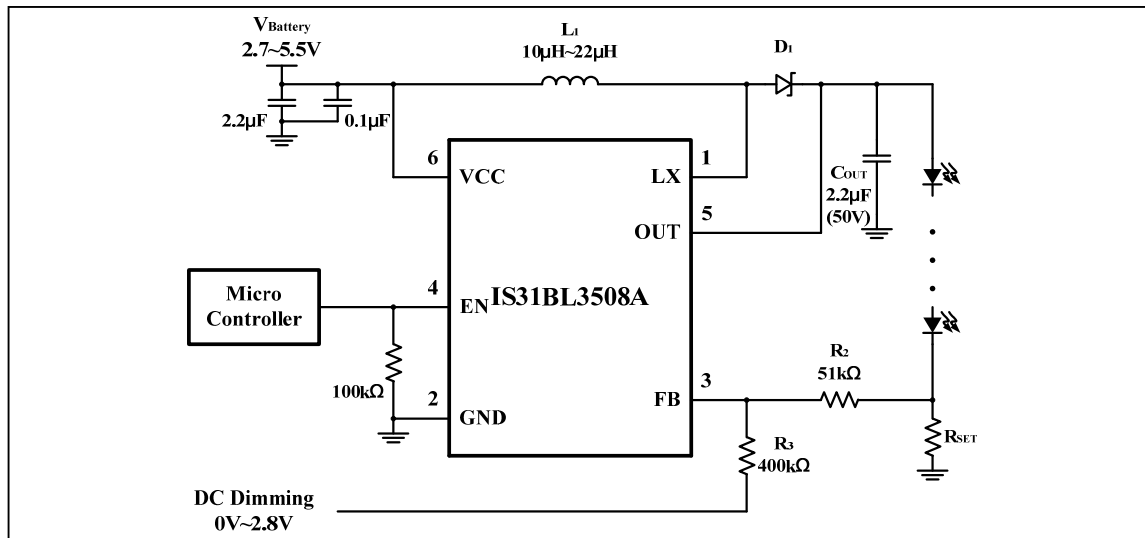

Figure 5 Constant output current with DC dimming input
The schematic of Figure 5 show an example of using a DC input voltage at the FB pin to implement LED dimming. When the DC input voltage increases, the current through R₂ and R₃ increases producing an offset voltage across R₂, thereby causing the LED current to be reduced. The LED current may be computed using the following Equation (3). V_{FB} is 0.3V (typ).